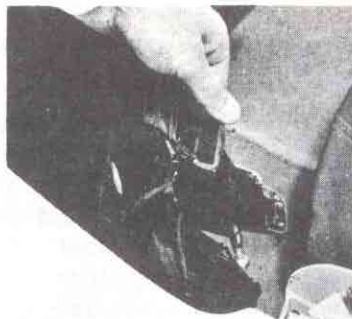

Fig. 39—Unbuckling Hold-down Straps
2. Unbuckle the straps holding each end of the top (fig. 39) and allow them to lay flat on the bottom of the top well.